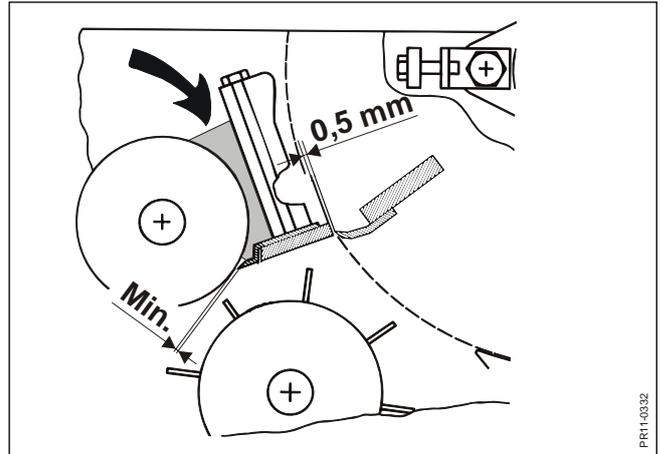

Fig. 4.4
**Fig. 4.4** Under certain conditions, the crop substance (small particles) can accumulate in the shaded area and this can result in an overloading of the transmission. Check this area after every 8 working hours and remove remaining crop. Check, and adjust if necessary, also the distance between the scraper and the smooth roller. The inspection frequency can be reduced when the machine has been run in under all crop conditions.